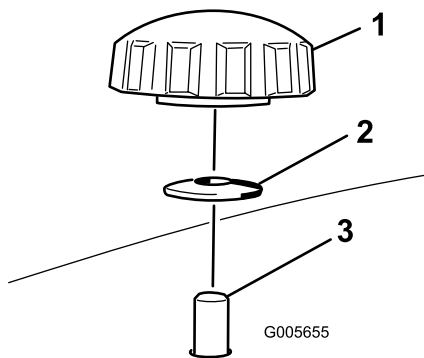
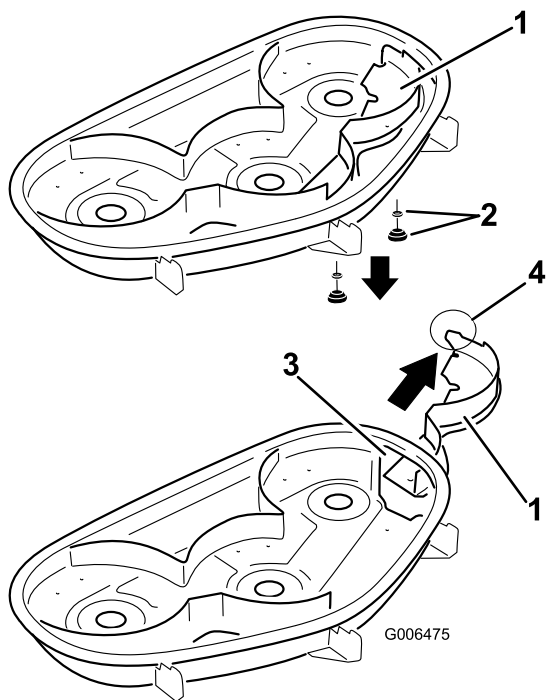

Figure 20
Figure 21
4. Remove the 2 knobs and curved washers that secure the right baffle to the mower as shown in Figure 20.
- Remove the right baffle and lower the grass deflector over the discharge opening as shown in Figure 21 and Figure 20.
- Slide the right baffle through the discharge opening and secure it using 2 knobs and curved washers (cupped side facing the mower) as shown in Figure 20 and Figure 21.